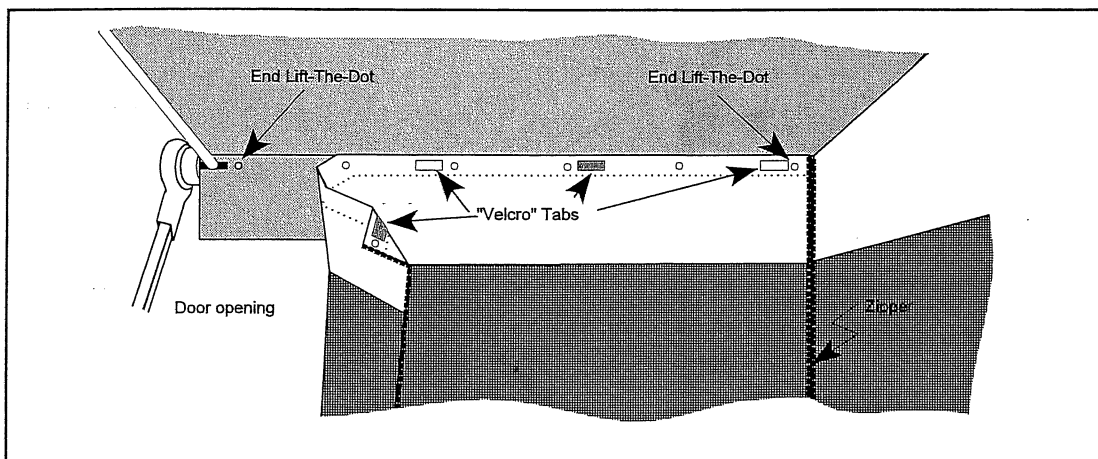

Figure 7
8. Either end of the front panel serves as a "Doorway". Simply unzip the corner, unsnap the corner and fold the panel inward toward the middle and press the "Velcro" strip near the corner snap to the matching "Velcro" strip sewn into the center panel near the center (Fig. 7).